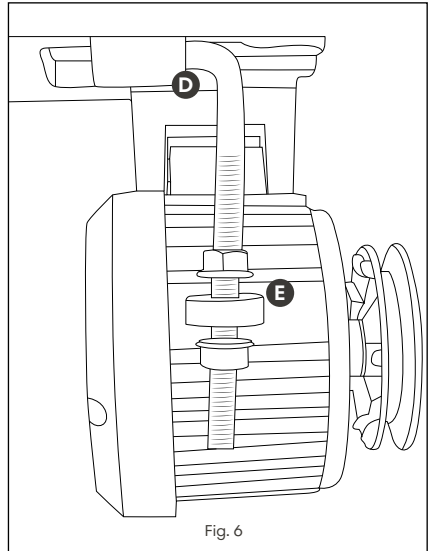

Fig. 6
- Tighten the top locking nut to adjust the tension on the belt. Then, secure by tightening the bottom locking nut. These locking nuts allow for fine-tuning of motor height and swing (Fig. 6).